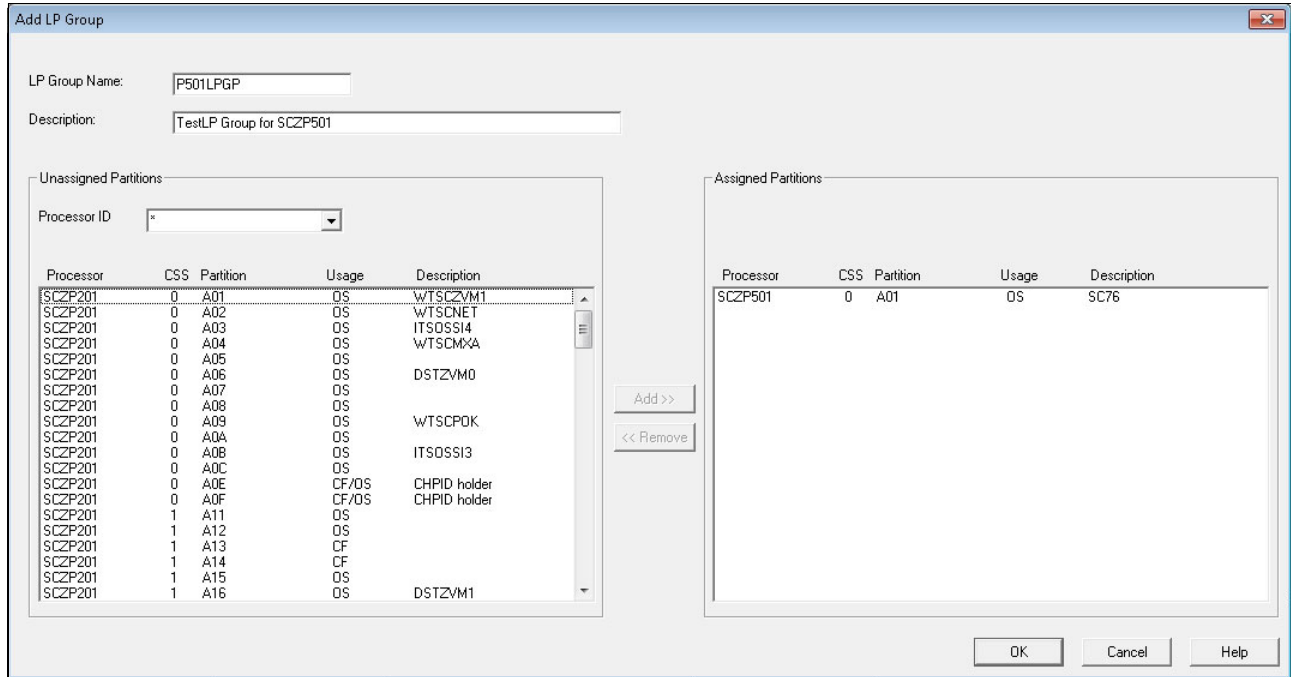

Figure 4-43 HCM - Add LP Group: adding processor ID and partition to an LP Group
3. Highlight the processor and partition that you want to add to the LP Group and click **Add**. In the example, select processor SCZP501 and partition A01 (Figure 4-43).